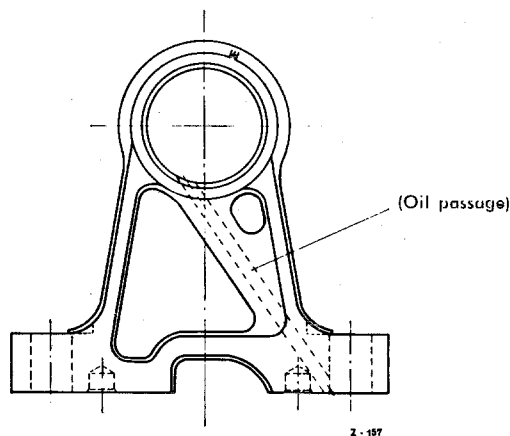

Fig. 01—4/6
**Note:** An oil passage runs from the left screw shank bore in the first camshaft bearing to the camshaft lubrication bore (Fig. 01—4/6). There must be absolutely no leakage where the contact surfaces of the first camshaft bearing and the cylinder head meet. Leak-